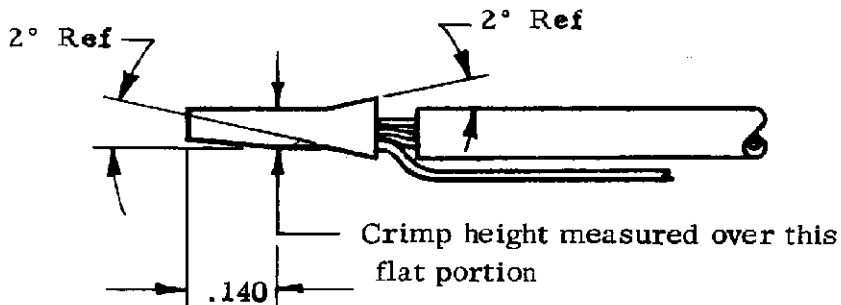

Figure 2
- (2) Consult AMP Engineering for specific crimp heights. Crimp heights specified by AMP Engineering shall be measured at the location shown in Figure 2, with a tolerance of $\pm .002$ unless otherwise specified.